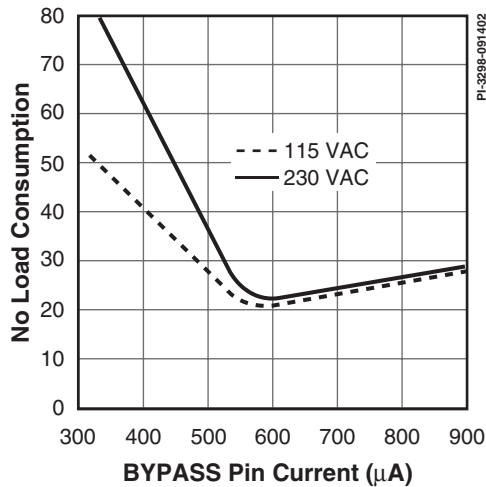

Figure 2. No-load Input Power vs. BYPASS Pin Current.
The bias winding should provide enough current to fully disable the internal current source at no-load. Other load conditions are not important, as the device will be powered from the DRAIN pin if bias is lost. This allows a simple flyback winding to be used. Figure 2 shows that the bias winding and choice of R2 should provide approximately 600 μ A at no-load to minimize consumption.
- Design bias winding circuit to provide approximately 600 μ A at no-load. Figure 2 shows the details.